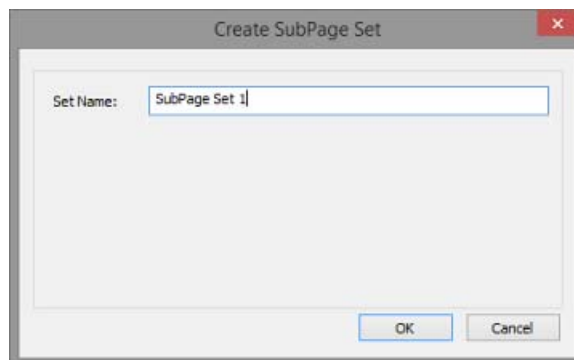

FIG. 94 Create SubPage Sets dialog
3. Enter a unique name for the new Sub-Page Set in the *Set Name* field (FIG. 94):